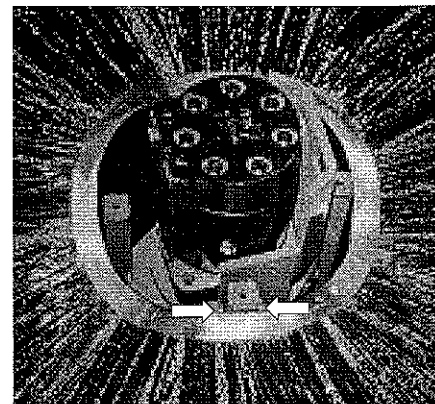

figure 26
9. Install the first section. Be sure drive pins (figure 26) straddle a tube to prevent the section from spinning on the core.